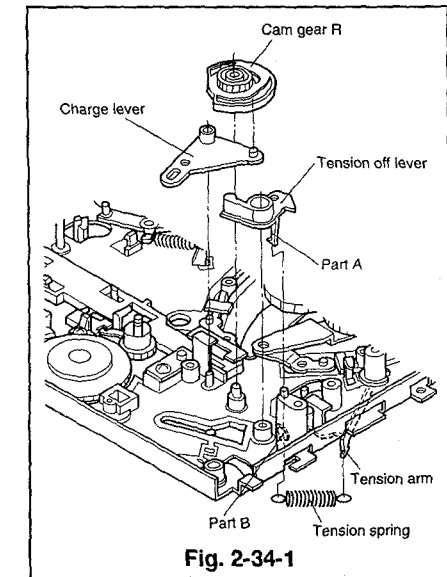
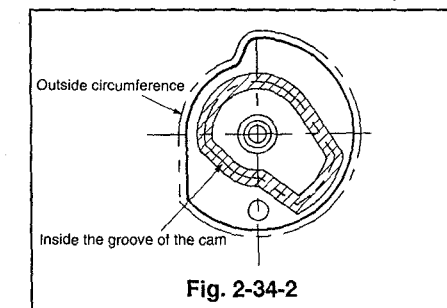
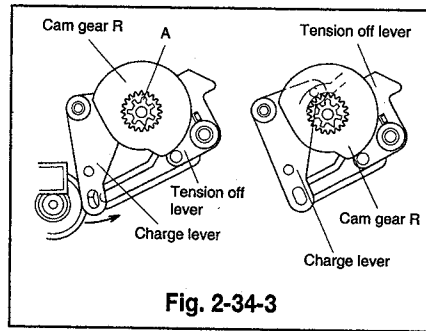
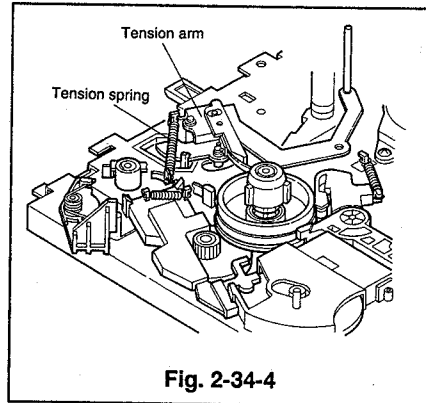

Fig. 2-34-1
Fig. 2-34-2
Fig. 2-34-3
Fig. 2-34-4
- ① Remove the cassette housing. (Refer to Para. 2-1 for the installation method.)
- ② Turn the deck the right side up and detach the tension spring. (Refer to Fig. 2-34-4.)
- ③ Remove the charge assembly. (Refer to item ② of Para. 2-18 for the removal method.)
- ④ Remove the reel belt and the pulley belt. (Refer to Para. 2-28 for the removal method.)
- ⑤ Remove the loading motor assembly (which holds the motor holder). (Refer to Para. 2-29 for the removal method.)
- ⑥ Remove the main gear J. (Refer to Para. 2-30 for the removal method.)
- ⑦ Remove the plate J, the roller B, and the cam plate B. (Refer to Para. 2-33 for the removal method.)
- ⑧ Raise the cam gear R upward to remove it. (Refer to Fig. 2-34-1.)
- ⑨ Remove the charge lever. (Refer to Fig. 2-34-1.)
- ⑩ Remove the tension off lever. (Refer to Fig. 2-34-1.)
- ① Let part A pass through part B shown in Fig. 2-34-1 to install the tension off lever.
- ② Fix the charge lever to the shaft.
- ③ Apply grease (PG-641) [859D055O30] to the area shown in Fig. 2-34-2 of the new cam gear R. (The groove and the flank of the outside circumference.)
- ④ Insert the cam gear R so that part A is on the upside, with the charge lever set fully to the right end. Slowly turn the charge lever in the direction shown by the arrow until it enters the groove in the cam gear R. (Refer to Fig. 2-34-3)
- ⑤ Install the cam plate B, the roller B, and the plate J. (Refer to Para. 2-33 for the installation method.)
- ⑥ Install the main gear J. (Refer to Para. 2-30 for the installation method.)
- ⑦ Install the loading motor assembly (which holds the motor holder). (Refer to Para. 2-29 for the installation method.)
- ⑧ Install the belt pulley and the reel belt. (Refer to Para. 2-28 for the installation method.)
- ⑨ Hook the tension spring in the position shown in Fig. 2-34-4.
- ⑩ Install the charge assembly. (Refer to item ⑤ of Para. 2-18 for the installation method.)
- ⑪ Install the cassette housing. (Refer to Para. 2-1 about the installation method.)